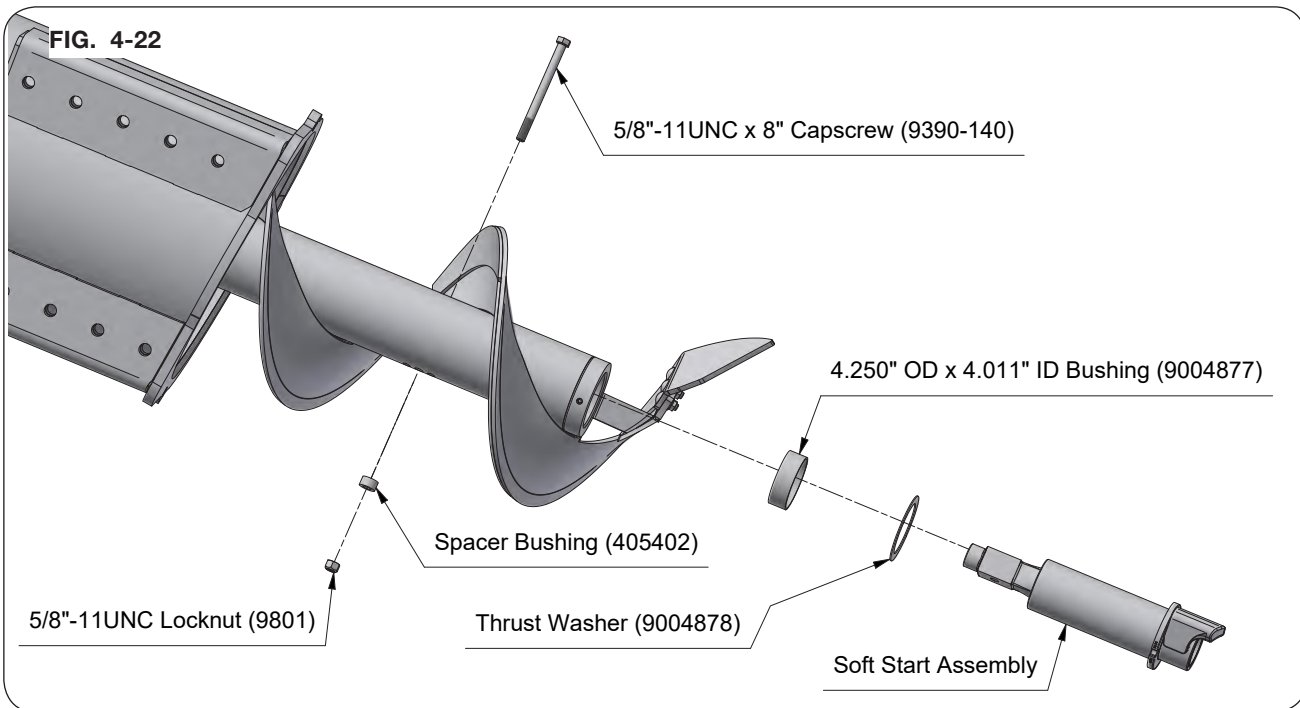

FIG. 4-22
**NOTE:** Before soft start reassembly, ensure the spacer bushing (405402) is on the same side as the lock nut (9801). (Fig. 4-22)
1. Retain the soft start into position with 1/2"-13UNC capscrew (9390-140), spacer bushing (405402), and 1/2"-13UNC lock nut (9801). (Fig. 4-22)